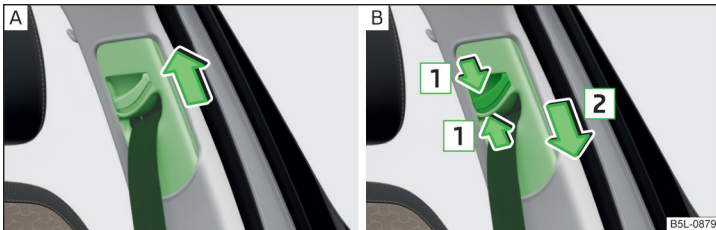

Fig. 5 Seat belt height adjusters for front seats
- Push the return pulley **upwards** in the direction of arrow » Fig. 5 - **A**.
- **Or:** push together the mechanism in the direction of arrows **1** and push the return pulley **downwards** in the direction of arrow **2** » Fig. 5 - **B**.